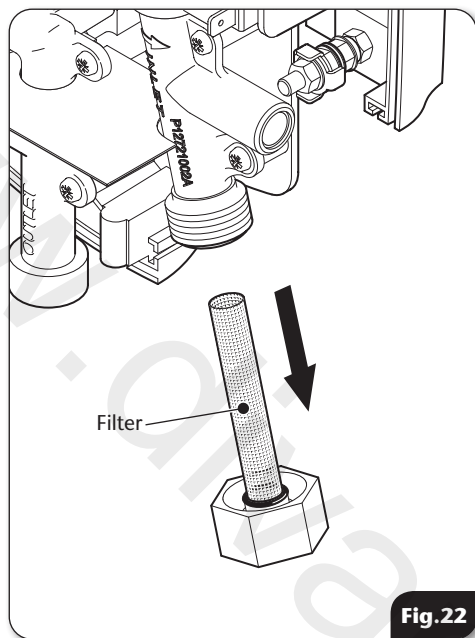

Fig.22
- The inlet filter is situated in the inlet pipe (**fig.22**).